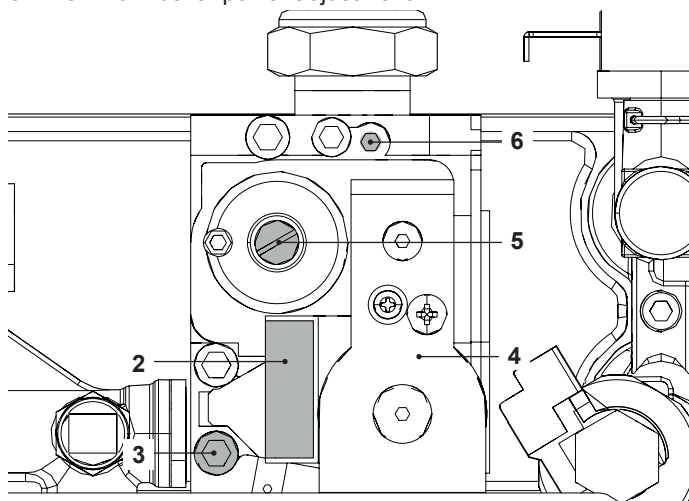
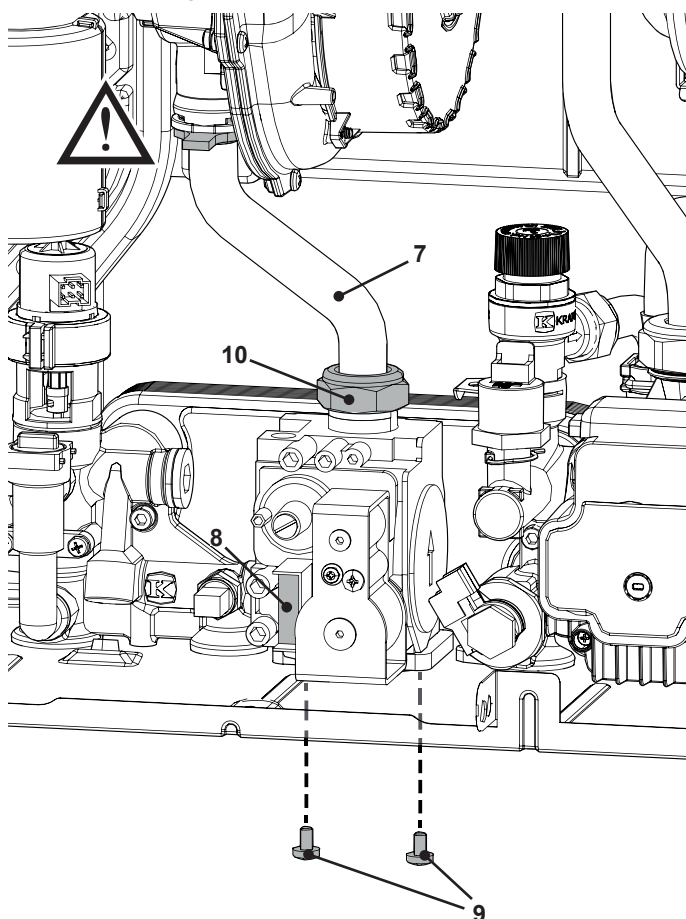

Figure 11.2
Figure 11.17
(Figure 11.2)
- 3 Loosen the internal screw on the Inlet Pressure Test Point "3" (Figure 11.2) of the Gas valve and connect a pressure gauge using a suitable hose.
- 7 Disconnect the pressure gauge and close the Inlet Pressure Test Point "3" (Figure 11.2).
22 To calibrate the boiler CO2 (gas pressure at the burner) unscrew the protective brass cap “5” completely and turn the underlying Ø 4 mm hex head socket screw Figure 11.2. Turn it clockwise to increase the CO2.
If the two values do not coincide, turn the RQ maximum adjustment screw (6 in Figure 11.2) for the gas valve and calibrate the CO2 to the same value specified in the table above.
- 2 Disconnect the electrical connector "2" (Figure 11.2).
- 2 Disconnect the connector "8" (Figure 11.17), see also connector "2" (Figure 11.2).
- 4 Unscrew the connector "10" (Figure 11.17) and remove the pipe "7".
- 5 Unscrew the screws "9" and remove the valve (Figure 11.17).